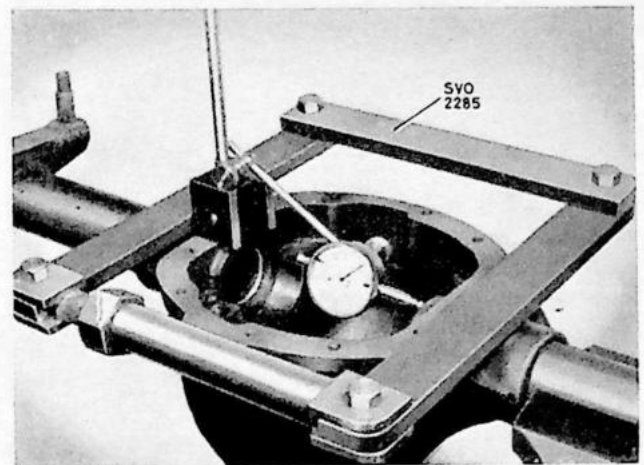

Fig. 39. Expanding rear axle housing.
11. Fit tool SVO 2285 and a dial indicator gauge on the rear axle housing, see fig. 39. Tighten the tensioning nut so that the rear axle housing is expanded max. 0.3 mm (0.012"). Remove the indicator. Place in the differential with bearings. Then remove tool SVO 2285.